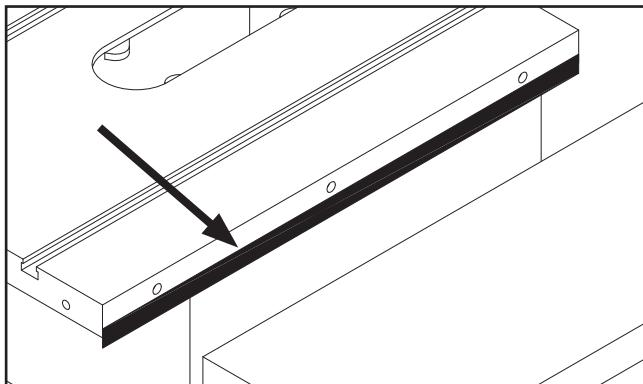

Figure 18. Masking tape location for tilting extension wing up.
- If outside end of extension wing tilts down, remove wing and place a strip of masking tape along bottom edge of main table to shim end of wing up (see **Figure 18**).